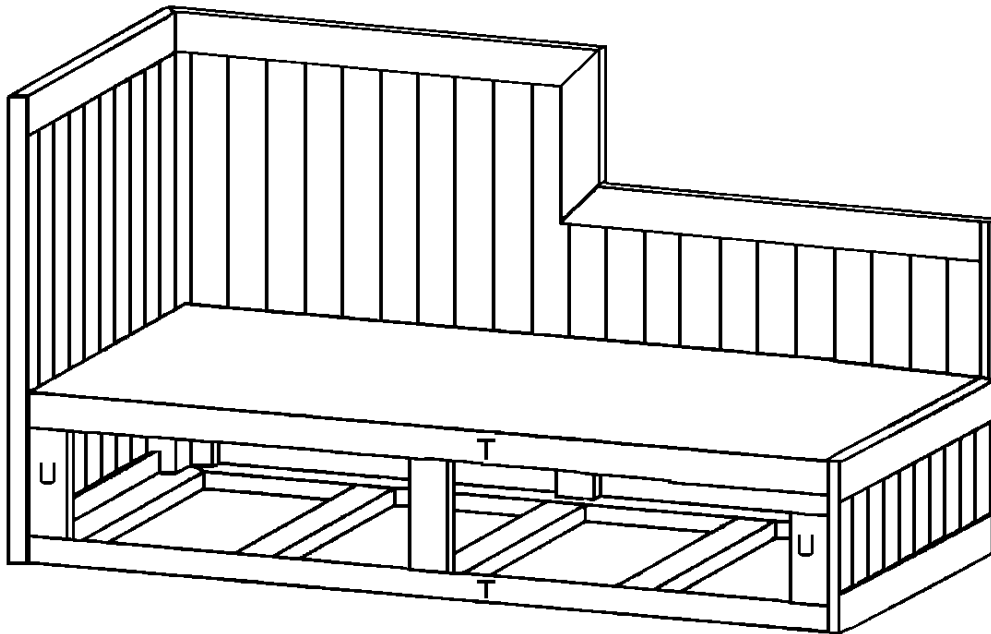

Figure 14
- Cut two horizontal trims (T) from 1 x 4 pine, each measuring 74 inches long.
- Cut three vertical trims (U) from 1 x 4 pine, each measuring 8-1/4 inches long.
- Attach one horizontal trim (T) between the headboard and the footboard flush with the bottom of the frame assembly, as shown in *Figure 14*. Use glue and 1 1/2-inch screws spaced about 6 inches apart.
- Attach each of the three vertical trims (U) to a front frame connector (D). Place the two outside vertical trims (U) against the headboard side (H) and the footboard side (K), respectively, but do not glue the vertical trim (U) to the headboard side (H). The third vertical trim (U) should be centered between the first two, as shown in *Figure 14*. Apply glue to the meeting surfaces and screw through each vertical trim (U) into its frame connector (D) using two 1 1/2-inch screws.
- Repeat step 4 to attach the remaining horizontal trim (T) between the headboard and footboard, against the tops of the vertical trims (U), as shown in *Figure 14*. This horizontal trim (T) extends above the platform (E) by 1/4 inch.
- Cut two storage fronts (V) from 1 x 12 pine, each measuring 33-3/4 inches long.
7. Center the storage fronts (V), both vertically and horizontally over the openings in the front of the completed daybed. Attach them to the daybed using two hinges on the bottom of each front. Install catches to keep the fronts closed. You may wish to round the front edges of the storage fronts (V) as we did.